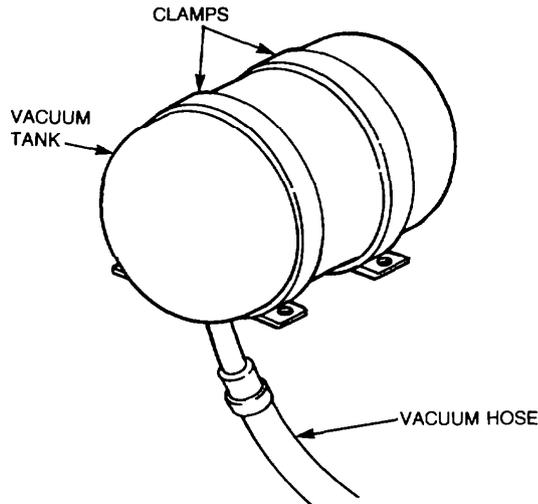

Figure 125 Vacuum Tank Removal
- f. Remove the four screws securing the vacuum tank to the right-hand inner wheel arch (Figure 125).